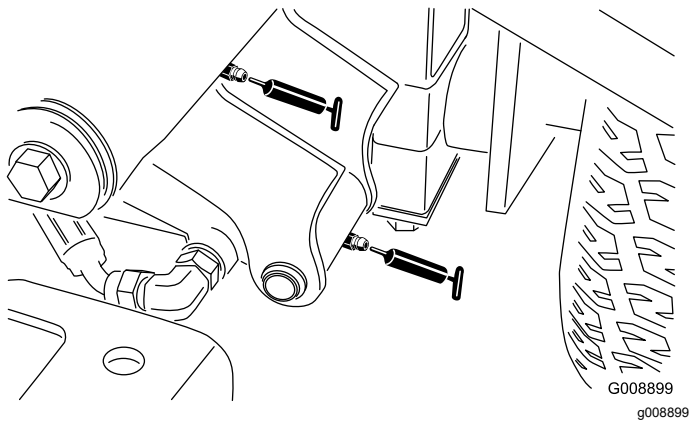

Figure 38
- 2 left, front lift-arm pivots and lift cylinder (Figure 38)